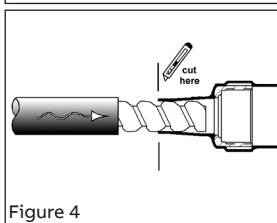

Figure 4
- Method 2: Strip cable jacket off armor. Progressively cut slices off boot until opening can snugly slide on armor (Figure 4).
- Tighten the gland nut until you obtain an appropriate seal or to the maximum torque (see table). The bushing should seal evenly around the cable's outer jacket. Ensure the cable remains centered to obtain an optimal seal (Figure 4).